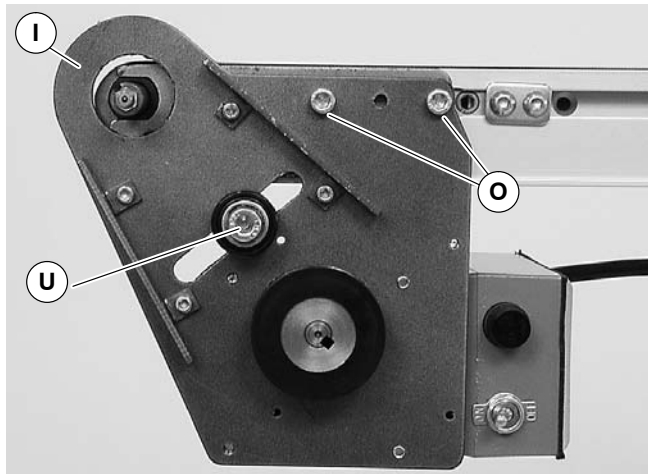
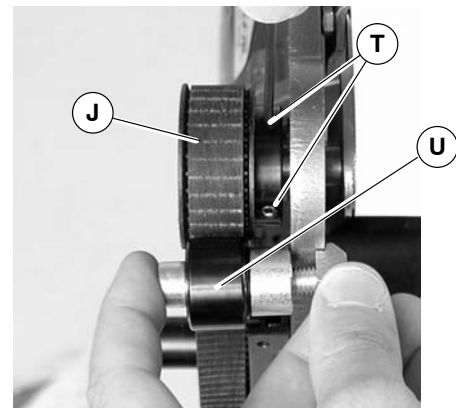

Figure 9
Figure 11
4. Attach mount assembly (I of Figure 9) with screws (O). Tighten screws to 80 in-lb (9 Nm).
6. Wrap timing belt (M) around driven pulley (J) and drive pulley (R). Install driven pulley (J) onto conveyor shaft.
7. Remove cam bearing and spacer (U of Figure 9). Place the cam bearing and spacer (U of Figure 11) next to the driven pulley (J). Ensure the flanges of the driven pulley are aligned with the cam bearing. Tighten driven pulley set screws (T). This will allow for proper belt alignment while conveyor is in use. Replace cam bearing and spacer (U).